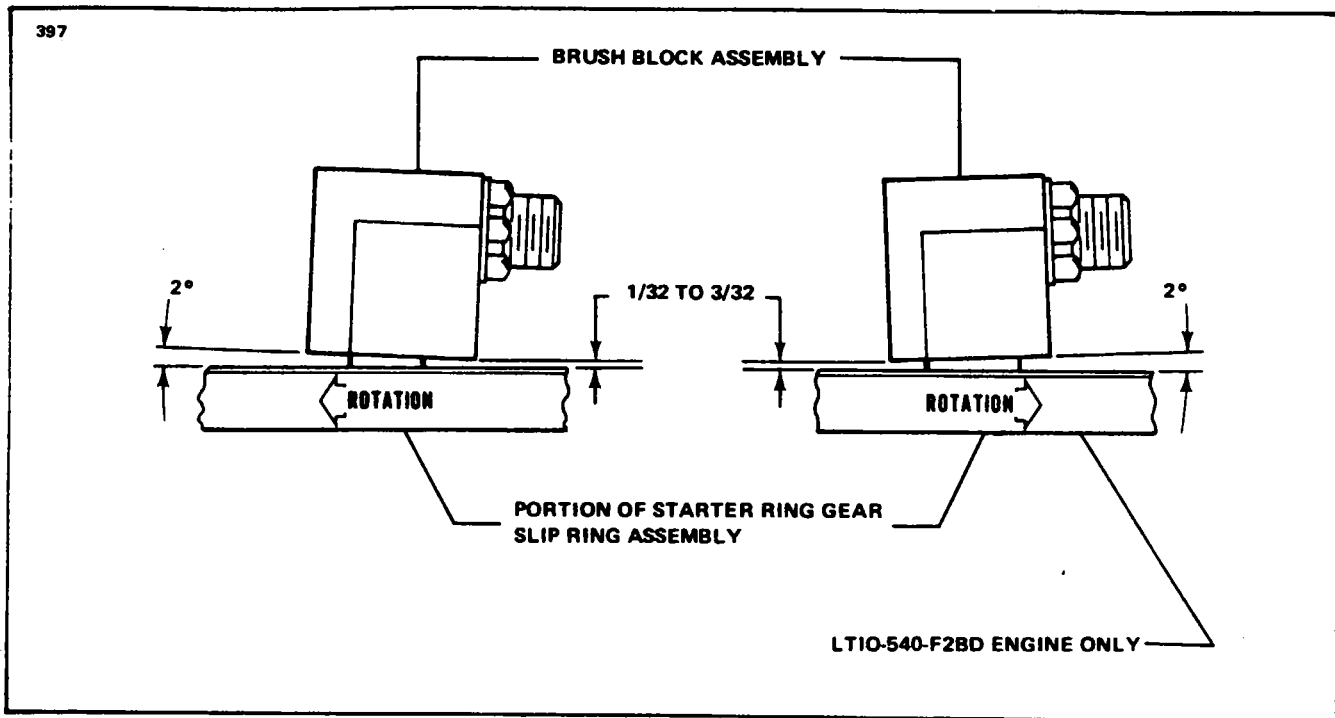

Figure 14-17. Angle of Contact Brushes to Slip Rings
2. Check for proper clearance of brush block to slip rings as shown in Figure 14-17. If not correct, loosen mounting screws and move in elongated holes to correct block position before tightening securely.
3. Visually check brush block for approximately 2° angle of attack. (Refer to Figure 14-17.) If not, loosen mounting screws and twist block, but be sure to hold clearance limits shown when tightening.
14-33. ALIGNMENT OF NEW BRUSHES. Anytime the brush block assembly is dismantled, the alignment at reinstallation must be checked as described in Paragraph 14-28, f and Figure 14-17.